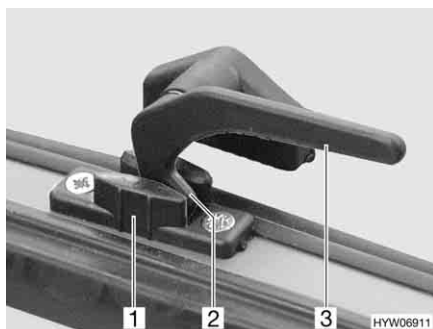

Fig. 69 Catch lever in the "continuous ventilation" position
- "Continuous ventilation" (Fig. 69)
- Turn the catch lever (Fig. 69,3) a quarter turn towards the centre of the window.
- Turn the catch lever a quarter turn towards the window frame. The locking catch (Fig. 69,2) has to be moved into the recess of window catch (Fig. 69,1).